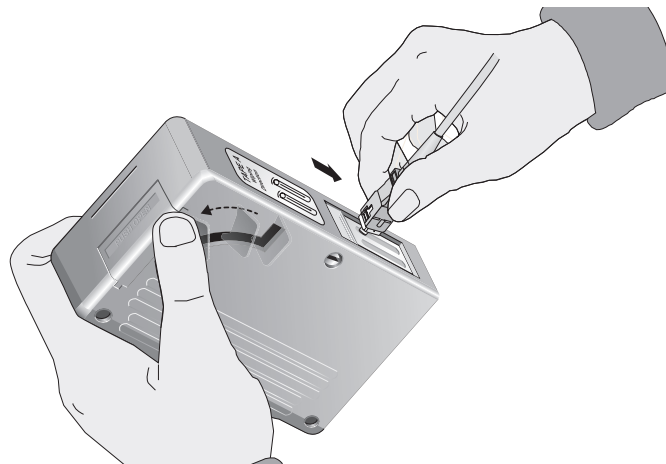

Figure 29. Rubbing the Ferrule Tip on the Cleaning Surface
8. With one hand, hold the cartridge cleaner and push the lever on the cleaning cartridge in the direction of the arrow to expose the cleaning surface, as shown in Figure 29.
9. Place the ferrule tip on the exposed cleaning surface and rub the ferrule in a downward direction, as shown in Figure 29.
1. Insert the swab into the adapter as shown in Figure 29 and rub the ferrule tip with the swab.